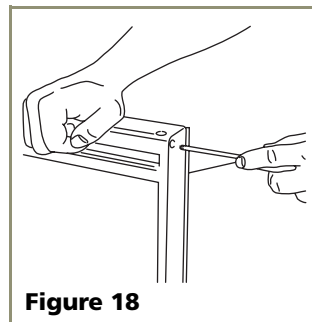

Figure 18
3. Remove two outside screws holding door handle. Slightly separate door handle from door (see **Figure 18**).